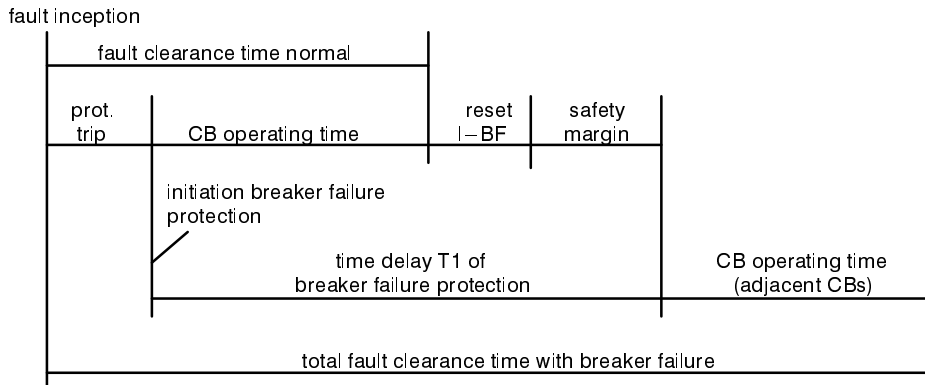

Figure 6.3 Time sequence example for normal clearance of a fault, and with circuit breaker failure, using single-stage breaker failure protection
- With single-stage operation, the adjacent circuit breakers (i.e. the breakers of the bus-bar zone and – if transmission of the signal is possible – the breaker at the remote end) are tripped after a delay time following initiation. Normally, this delay time is T1. The delay time T2 is set ineffective in this case. An example of the time sequence is illustrated in Figure 6.3.
The delay times are determined from the maximum operating time of the feeder circuit breaker, the reset time of the current detectors of the breaker failure protection, plus a safety margin which allows for any tolerance of the delay timers. The time sequence is illustrated in Figure 6.3 for single-stage breaker failure protection, and in Figure 6.4 for two-stage breaker failure protection.